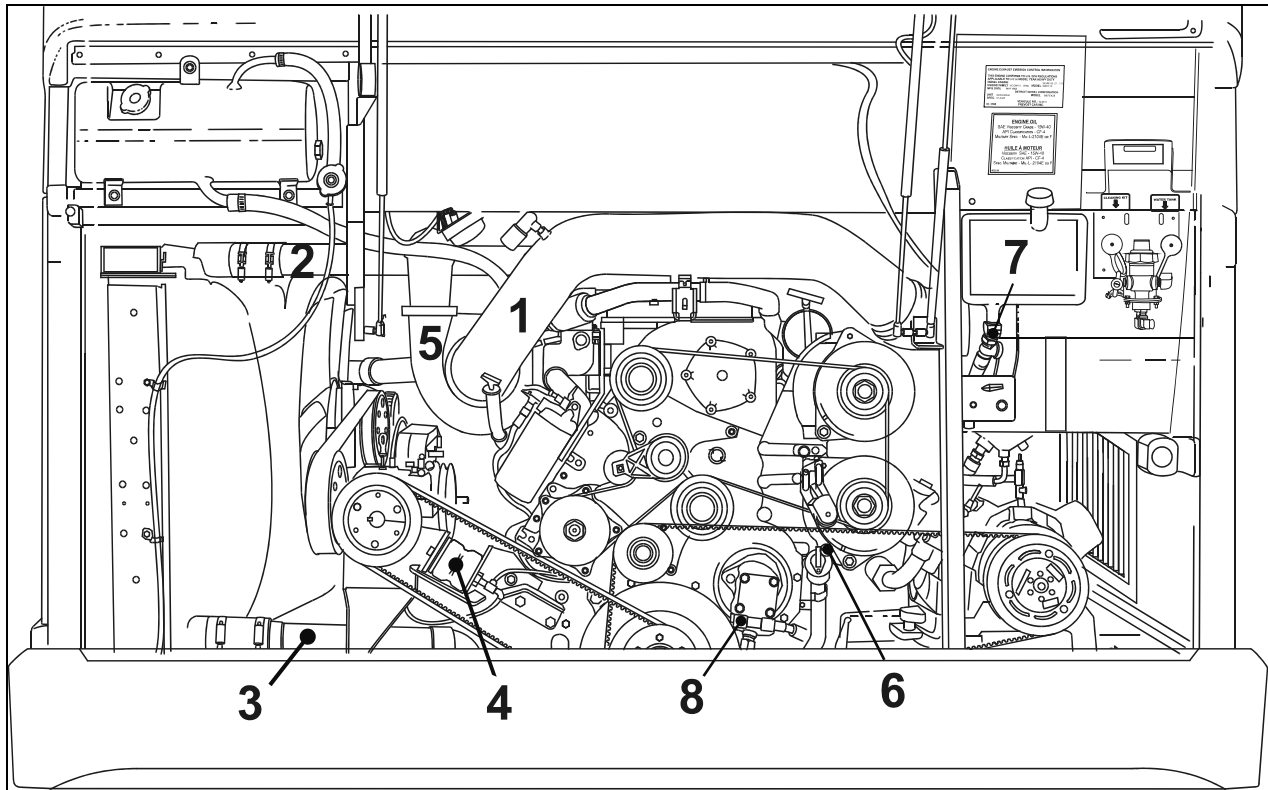

FIGURE 17: ENGINE COMPARTMENT H3 COACHES (TYPICAL)
6. Disconnect and remove the engine-air intake duct mounted between air cleaner housing and turbocharger inlet (1, Fig. 17, 18).
7. Disconnect and remove the air intake duct mounted between the air cooler outlet and the engine intake (2, Fig. 17, 18).
8. Disconnect and remove section of coolant pipe assembly mounted between the radiator outlet and the water pump inlet (3, Fig. 17, 18).
11. Dismantle the air bellow from the upper bracket of the fan-drive assembly tensioner. Remove the upper bracket (4, Fig. 17, 18).
13. Disconnect and remove the air intake duct mounted between the turbocharger outlet and the air cooler inlet (5, Fig. 17, 18).
19. Disconnect the block heater connector above the power steering pump (6, Fig. 17, 18).
21. Disconnect the oil delivery hose from the valve located at the reserve tank drain (7, Fig. 17, 18).
22. Disconnect the power steering pump supply and discharge hoses. Cap hose openings immediately to limit fluid loss. Remove retaining clips from cradle (8, Fig. 17, 18).
1. Remove air intake duct (1, Fig. 17, 18).
2. Remove the air intake duct mounted between the air cooler outlet and the engine intake (2, Fig. 17, 18).